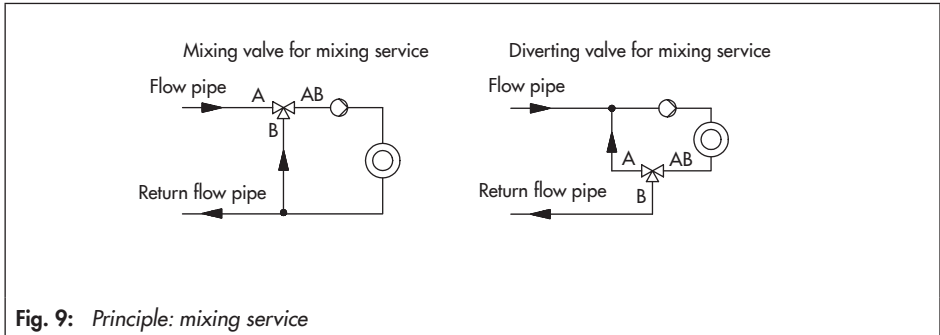

Fig. 9: Principle: mixing service
- With three-way mixing valves: Port A → AB open, B → AB closed (see Fig. 9)
- With three-way mixing valves: Port A → AB closed, B → AB open (see Fig. 9)